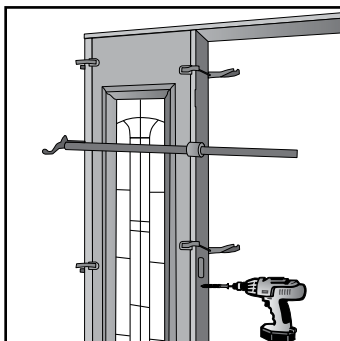

Fig. 19
- H. Anchor strike side mull post to silight, using a 1-1/2" screw under lock strike location (**Fig. 19**). Anchor top of mull post to silight using two 1-1/2" finish nails approximately 2" down from head jamb through rabbeted face of jamb. Anchor bottom of mull post to silight using two 1-1/2" finish nails approximately 2" up from sill into rabbeted portion of mull post.